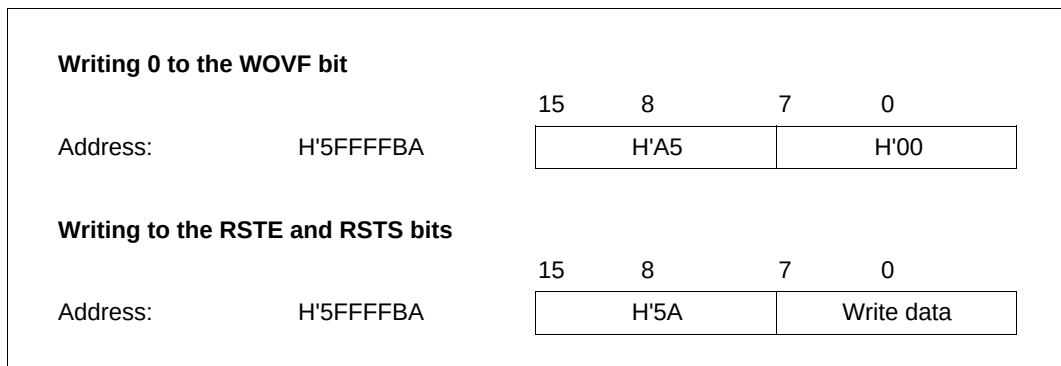

**Figure 12.3 Writing to RSTCSR**
**Writing to RSTCSR:** RSTCSR must be written by a word access to address H'5FFFFFBA. It cannot be written by byte transfer instructions. Procedures for writing 0 in WOVF (bit 7) and for writing to RSTE (bit 6) and RSTS (bit 5) are different, as shown in figure 12.3. To write 0 in the WOVF bit, the write data must be H'A5 in the upper byte and H'00 in the lower byte. This clears the WOVF bit to 0. The RSTE and RSTS bits are not affected. To write to the RSTE and RSTS bits, the upper byte must be H'5A and the lower byte must be the write data. The values of bits 6 and 5 of the lower byte are transferred to the RSTE and RSTS bits, respectively. The WOVF bit is not affected.